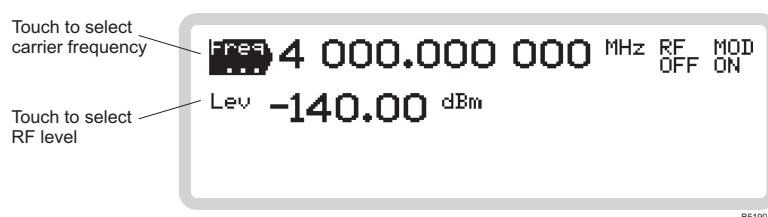

Fig. 3-17 Main screen
Press  to see the main screen (Fig. 3-17), from which you can set up parameters associated with the instrument's carrier frequency and RF level.
- 1 Touch to select the RF level menu on the main screen (Fig. 3-17).